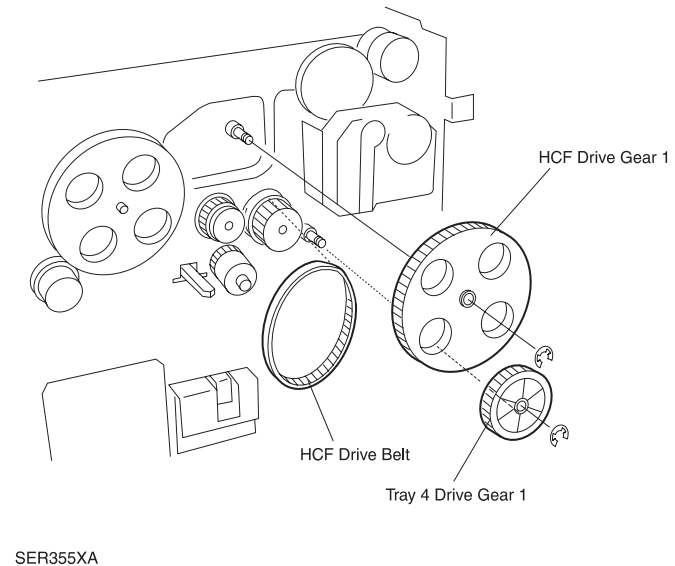

Figure 3-11. HCF Drive Belt
4. Remove the E-ring securing HCF Drive Gear 1 and the E-ring securing Tray 4 Drive Gear 1 and slide both Gears off of the shafts (Figure 3-11).